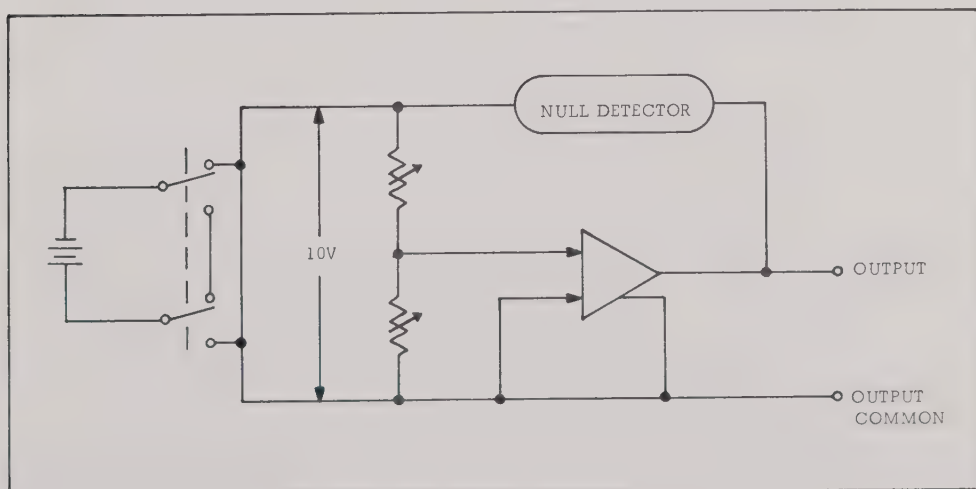

Figure 5.2 - Gain Accuracy Adjustment
1. Connect the test setup shown in Figure 5.2.